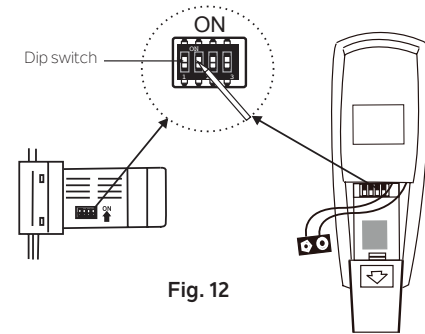

Fig. 12
**NOTE:** In the Transmitter, Set Dip Switch #4 to the D position. This enables the dimming function because your ceiling utilizes an LED light fixture that is dimmable. (See Fig.12)
**NOTE:** The remote control system is equipped with 16 possible frequency combinations to prevent interference from or with other remote control units. The frequency switches on your receiver and transmitter have been preset at the factory. Please recheck to make sure the switches on transmitter and receiver are set to the same position, any combination of settings will operate the fan as long as the transmitter and receiver are set to the same position. (Fig. 12)